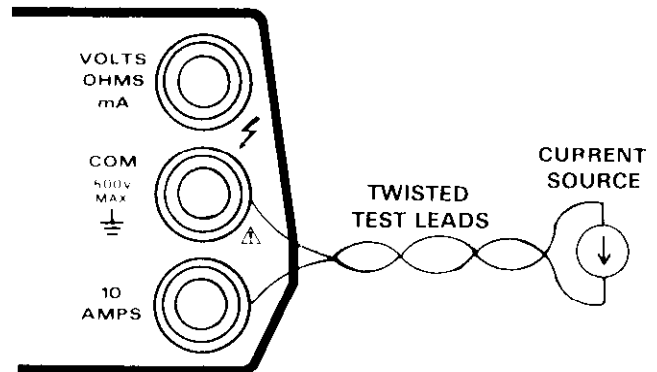

Figure 2-5. Current Measurements Between 2000mA and 20A
The test leads used must be capable of handling 20A and it is recommended that they be twisted (see Figure 2-5) to minimize external fields which could affect the Model 175 or other equipment. Also, keep the test leads as short as possible to minimize voltage drop.
- Connect the test leads to the current source as shown in Figure 2-5 and make the reading from the display.